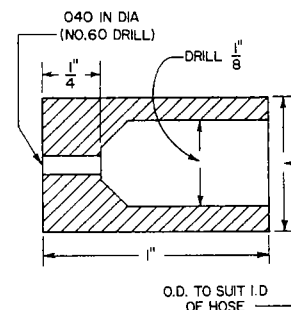

Figure 5. Restriction for Installation in Hose
c. Fuel drain lines that employ a hose can be modified by installing the restriction in the hose and securing by a clamp. A restriction can be fabricated, as shown in figure 5, installed in the hose and secured.